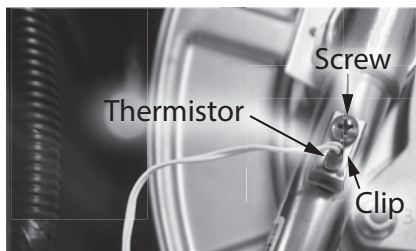

Figure 198 - Disconnect thermistor from HEX outlet tube
- 24** Locate the screw securing the outlet thermistor and clip to HEX outlet tube as shown in Figure 198. Remove screw and clip and place aside in a safe place for reinstallation. Disconnect thermistor and route wire to the side.